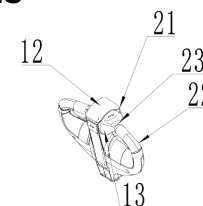
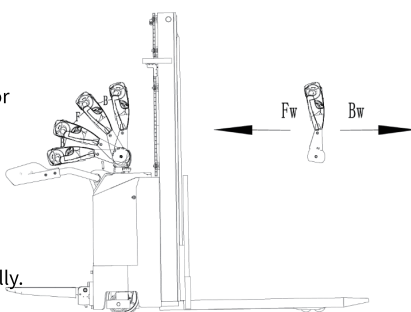

Figure 9:Handle Operation Control
Figure 13: Operation Direction
When travelling, lower the forks fully onto the support legs, and press the lift button (Fig. 9, 22) until the desired lifting height is reached.
If the forks are positioned inside the rack, carefully move the vehicle together with the pallet, or move the vehicle out of the rack alone first. Press the lower button carefully (Fig. 9, 23). Lower the load until the forks are clear of the pallet, then drive the vehicle slowly away from the load.
Move the control handle into the operating area ("F", Figure 13).
Turn the accelerator button to the desired forward direction Fw. or reverse direction Bw. (Figure 13).
Adjust the travel speed by gently moving the accelerator button (No.13, Figure 9) until the desired speed is reached.
- ⚠ **Braking performance depends on road conditions and the vehicle load status. The braking function can be activated in the following ways (Figure 9, Figure 13):**
- Return the accelerator button (Fig. 9, 13) to the 0 position or release it to activate regenerative braking. The vehicle will brake until it comes to a complete stop.
- Move the accelerator button (Fig. 9, 13) directly from one travel direction to the opposite direction; the vehicle will apply regenerative braking until it starts traveling in the reverse direction.
- The vehicle brakes when the handle is moved upward or downward into the braking area (B). When the handle is released, it automatically returns to the upper braking area (B), and the vehicle continues braking until it stops.
- The belly switch (Fig. 9, 12) protects the operator from being crushed. When the switch is activated, the vehicle decelerates and/or travels a short distance in reverse (Bw.), then stops. If the handle is in the operating area but the vehicle remains stationary, note that this switch may also control vehicle operation.